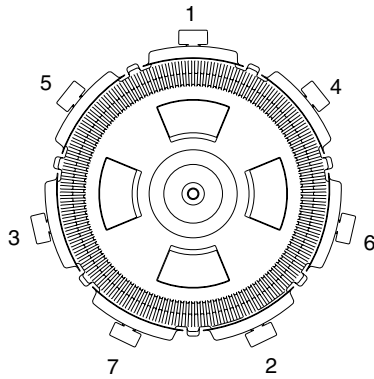

FIGURE 4 - 21" Filter clamp tightening sequence.
- See Figure 4 for clamp tightening sequence. Tighten all clamp knobs securely hand tight.